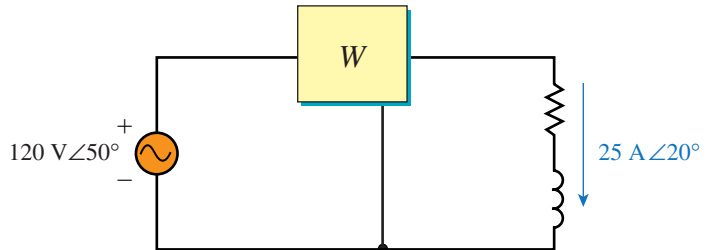

FIGURE 17–50
31. Determine the wattmeter reading for Figure 17–50.